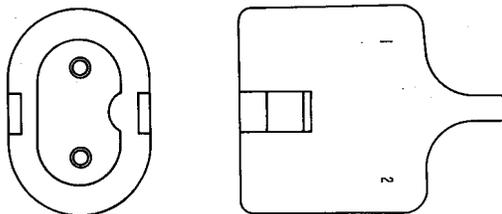

Fig. 20—346A Plug
2.19 346A: The 346A plug (Fig. 20) is polarized and has a black, molded body, equipped with 2-pin type contacts which mate with the 471A jack and is used with the 1011G headset.